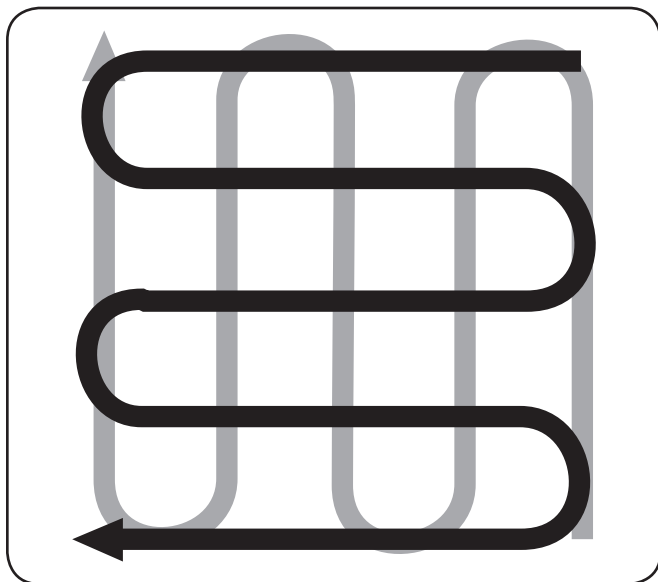

Figure 5-6
- When finished tilling in one direction, make a second pass at a right angle as shown in Fig. 5-6. Overlap each pass for the best results. In very hard ground it may take three or four passes to thoroughly pulverize the soil.